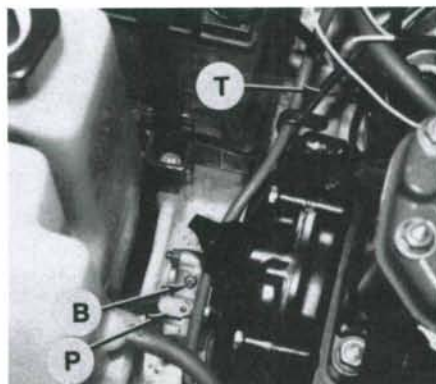

Fig. JS3-17—View identifies oil injection pump assembly (P), air bleed screw (B) and transparent outlet hose (T).
Place a container under oil pump (P—Fig. JS3-17). Open oil pump air bleed screw (B) two or three turns to allow oil to seep out around screw threads. After no air bubbles are noticed, close air bleed screw (B).
Disconnect transparent outlet hose (T—Fig. JS3-17) from engine inlet fitting. Route end of transparent outlet hose (T) into a suitable measuring container. Connect a tachometer to engine. Start engine, then turn on supplemental water supply and properly adjust water flow. Accelerate engine to 6000 rpm and maintain for one minute. After one minute, note amount of oil in measur-